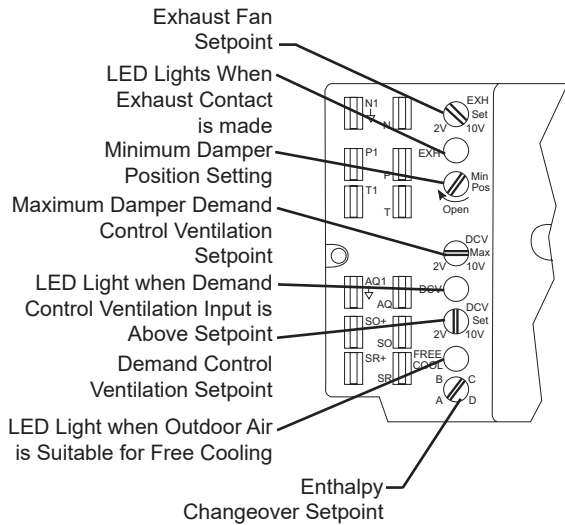

Fig. 12 - Economizer Controller Potentiometer LED Locations
OUTDOOR AIR TEMPERATURE (OAT) SENSOR— The outdoor air temperature sensor (HH57AC080) is a 10 to 20mA device used to measure the outdoor-air temperature. The outdoor-air temperature is used to determine when the Economizer can be used for free cooling. The operating range of temperature measurement is 40° to 100° F (4.4° to 38° C). The sensor has 8 selectable temperature changeover setpoints. The temperature changeover is set using the 3 dip switches on the sensor. The ABCD potentiometer on the controller should be set to “D” position. See Fig. 12.
When the outdoor air enthalpy rises above the outdoor enthalpy changeover set point, the outdoor-air damper moves to its minimum position. The outdoor enthalpy changeover set point is set with the outdoor enthalpy set point potentiometer on the Economizer controller. The set points are A, B, C, and D. See Fig. 12. The factory-installed 620-ohm jumper must be in place across terminals SR and SR+ on the Economizer controller. See Wiring Diagrams Figs. 18-23.
MINIMUM POSITION CONTROL — There is a minimum damper position potentiometer on the Economizer controller. See Figs. 12 and 16 and Wiring Diagrams Figs. 18-23. The minimum damper position maintains the minimum airflow into the building during the occupied period.
3. Ensure that the factory-installed jumper is in place across terminals P and P1. If remote damper positioning is being used, make sure that the terminals are wired according to the appropriate unit wiring diagram in the back of this manual and that the minimum position potentiometer is turned fully clockwise (Figs. 12 and 16).
5. Carefully adjust the minimum position potentiometer until the measured mixed-air temperature matches the calculated value (Figs. 12 and 16).